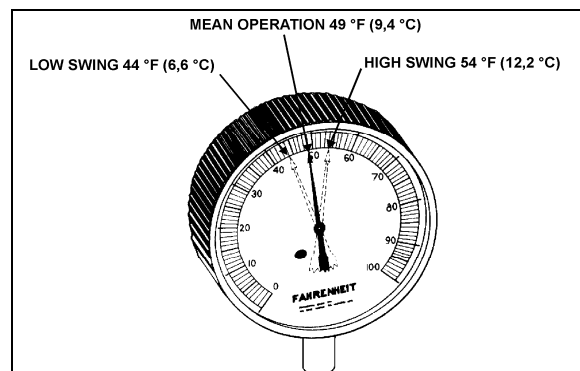

FIGURE 35: HIGH & LOW SWING TEMPERATURE AT REMOTE BULB²²⁰⁴⁷
6. Check approximately 5 readings of pressure at 2-minute intervals and convert to temperature using the temperatures & pressures table (page 35). Likewise check the temperature reading at the remote bulb at the same 2-minute intervals and record the low and high swing readings of the needle (refer to Fig. 35).
Example of readings taken at fig. 35: